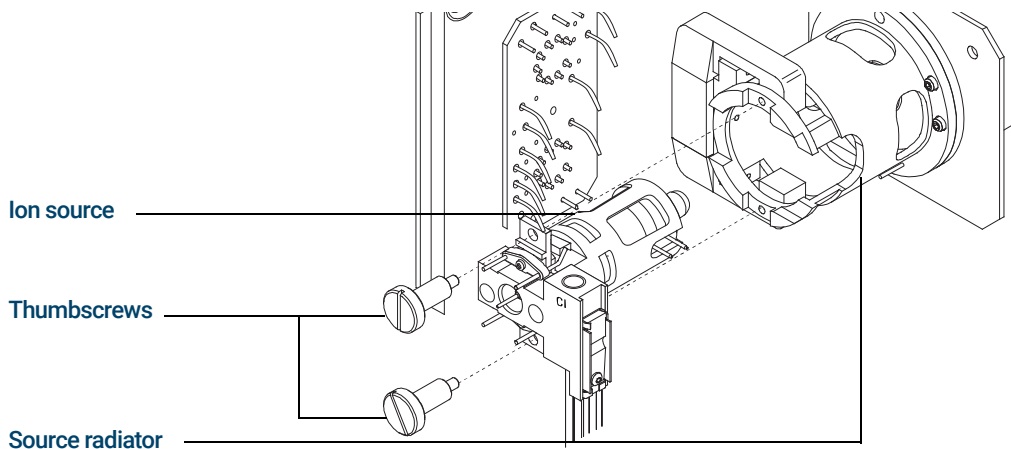

Figure 70. Installing the CI source
- 4 Install the thumbscrews. (See **Figure 70.**)